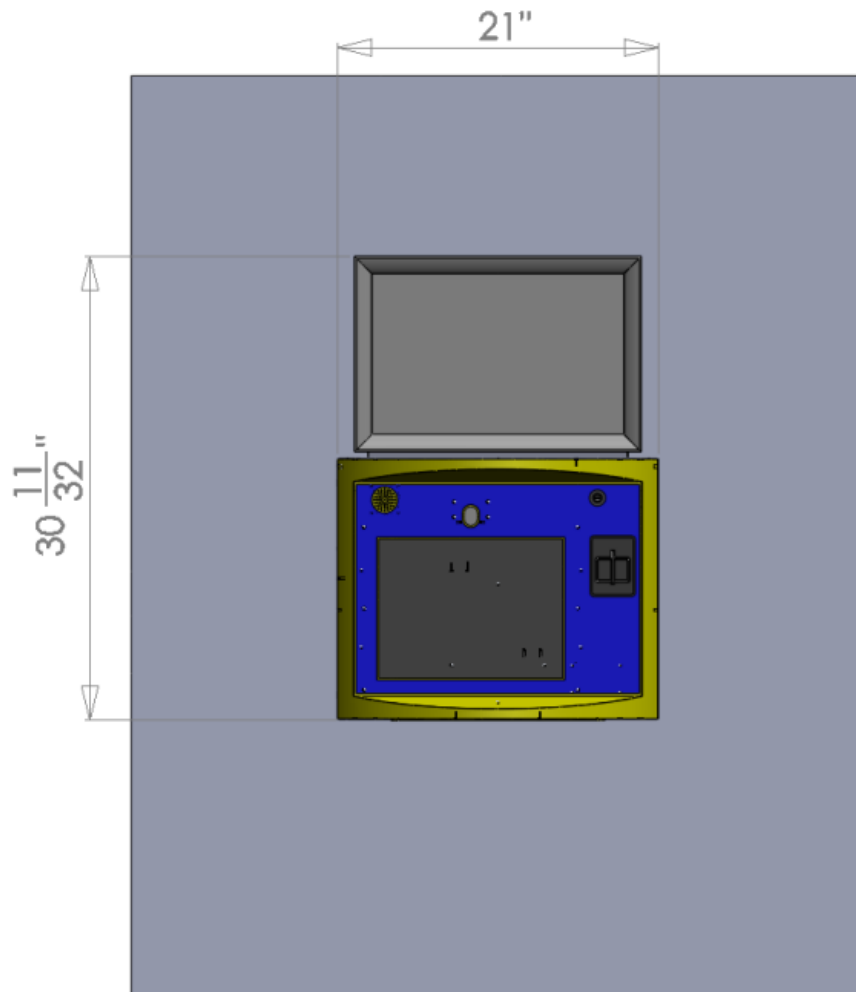

Figure 4: Kiosk Dimensions
- Figure 4: Kiosk on Wall Bracket12